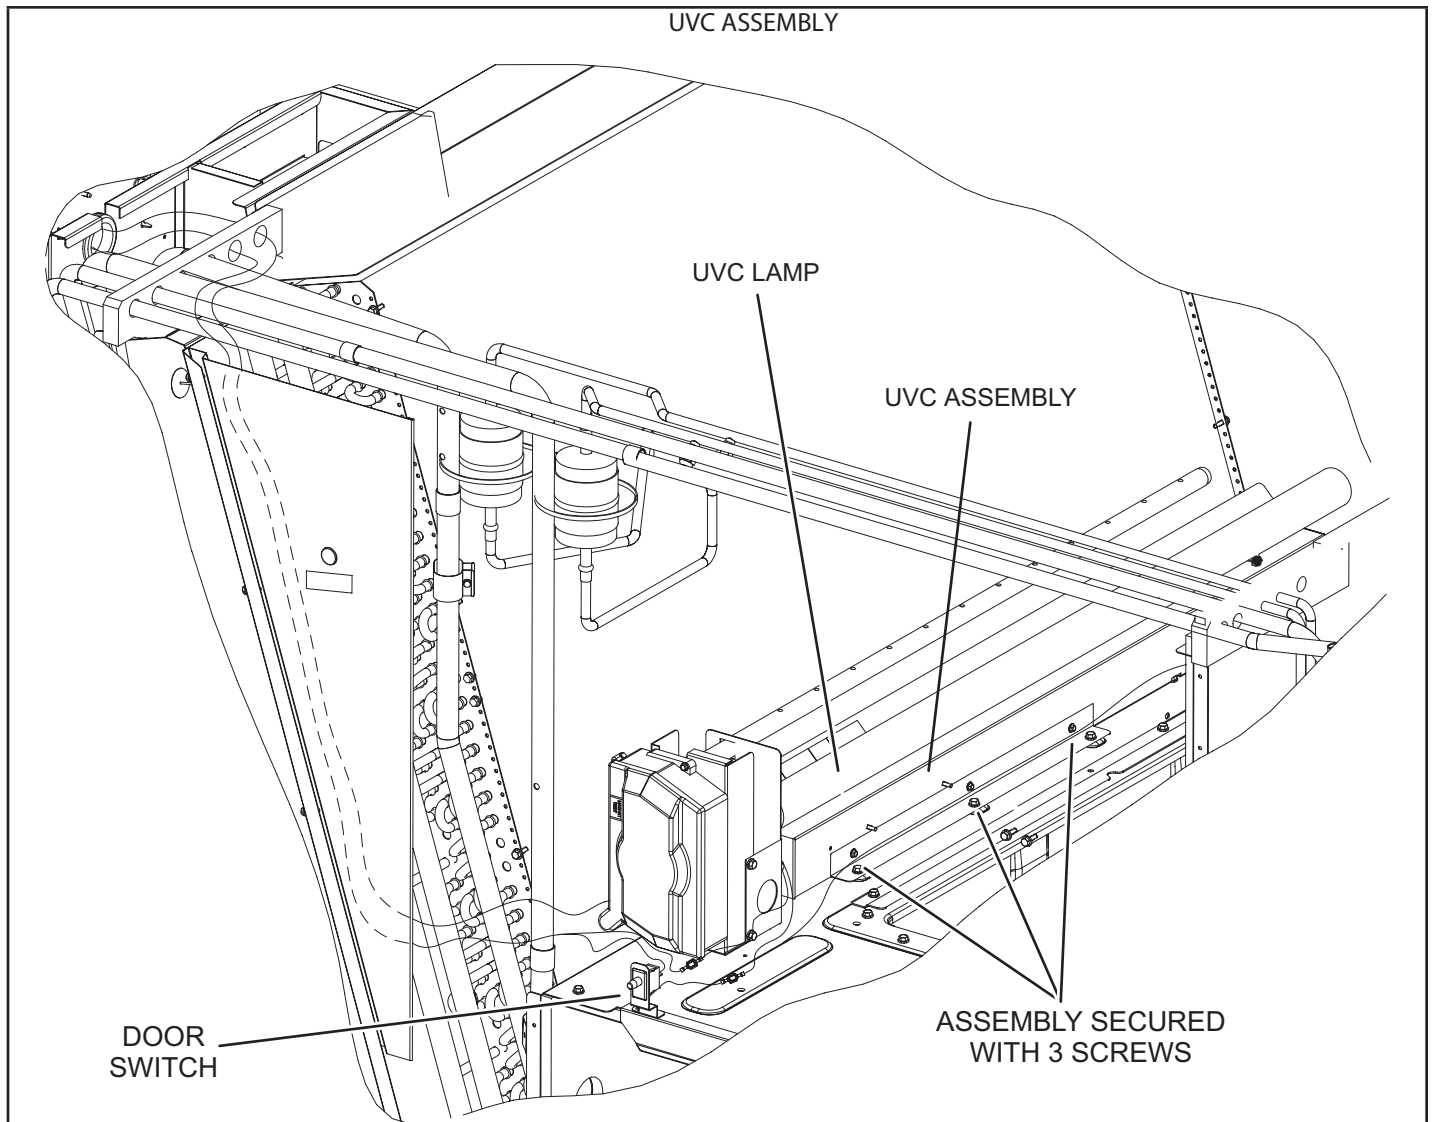

FIGURE 42
When the UVC light is factory installed, the lamp is shipped in a foam sleeve. The lamp is attached to the UVC light assembly on the blower deck. See FIGURE 42. Remove the lamp and install into the UVC light assembly as shown in steps 2 through 11.
- 4 - Remove and retain the (3) screws securing the UVC assembly. Carefully slide the complete UVC assembly out through the blower access door. See FIGURE 42.
- 7 - Carefully place the UVC assembly on the blower deck. Line up the mounting holes on the UVC assembly with the mounting holes on the blower deck. See FIGURE 42. Use the retained screws provided to attach the UVC assembly in place.